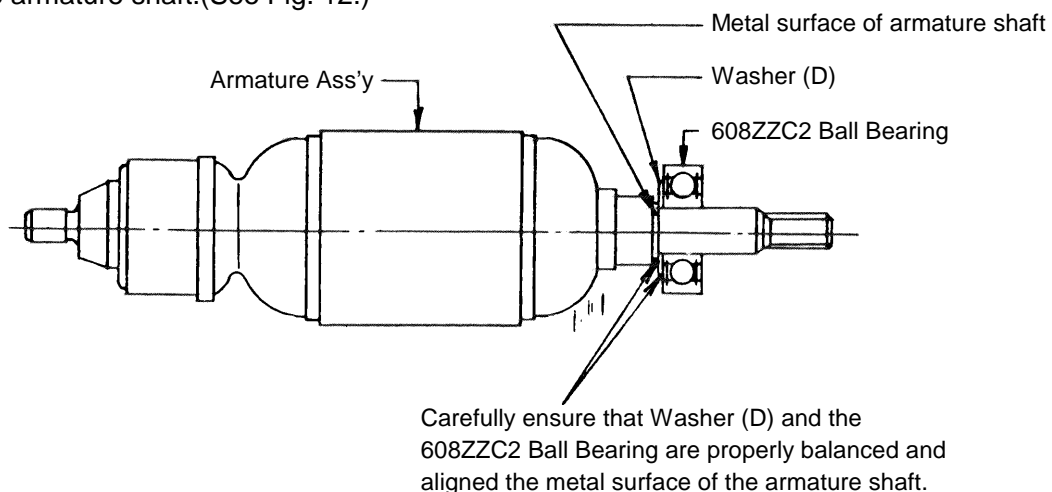

Fig. 12
In most assemblies, the fitting of Washer (D) (19) and the 608ZZC2 Ball Bearing (20) on the armature shaft is not exceptional tight. However, there are cases in which minor tolerance differences make press-fitting necessary. If re-assembly is difficult, use an arbor press to mount Washer (D) and the 608ZZC2 Ball Bearing onto the armature shaft, being very careful to ensure that they are properly balanced and aligned on the metal surface of the armature shaft. Also, when press-fitting the 608ZZC2 Ball Bearing, be very careful not to damage the metal surface of the armature shaft. (See Fig. 12.)